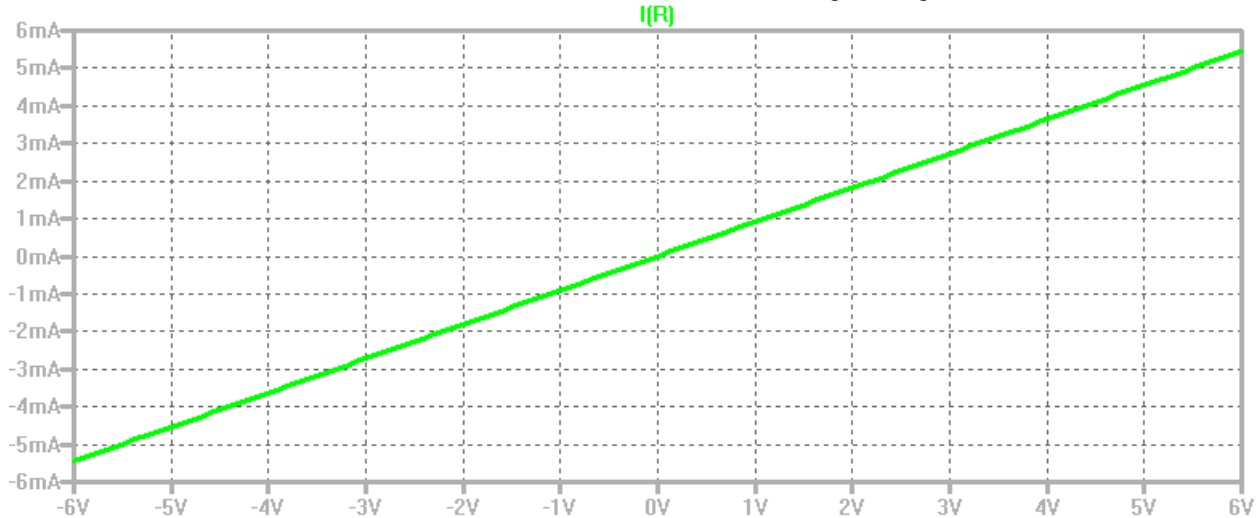

Figure A-5.
- Use a current probe to display the current through R1. The plot produced will show something similar to the I-V characteristic curve for resistor R2. It should look something like Figure A-5: